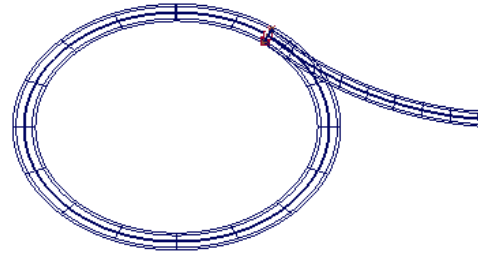

Figure 3-75 The extrude feature
5. Select the arc from the window; the extrude feature is created, as shown in Figure 3-75.